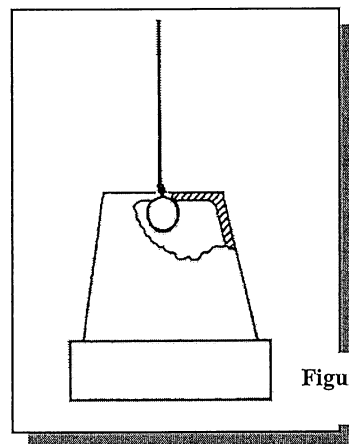

Figure 4.1
3. Pots may be secured by a closed loop or by a washer supplied by the skirmish hosts that are larger than the hole in the bottom of the pot (see figure 4.1).